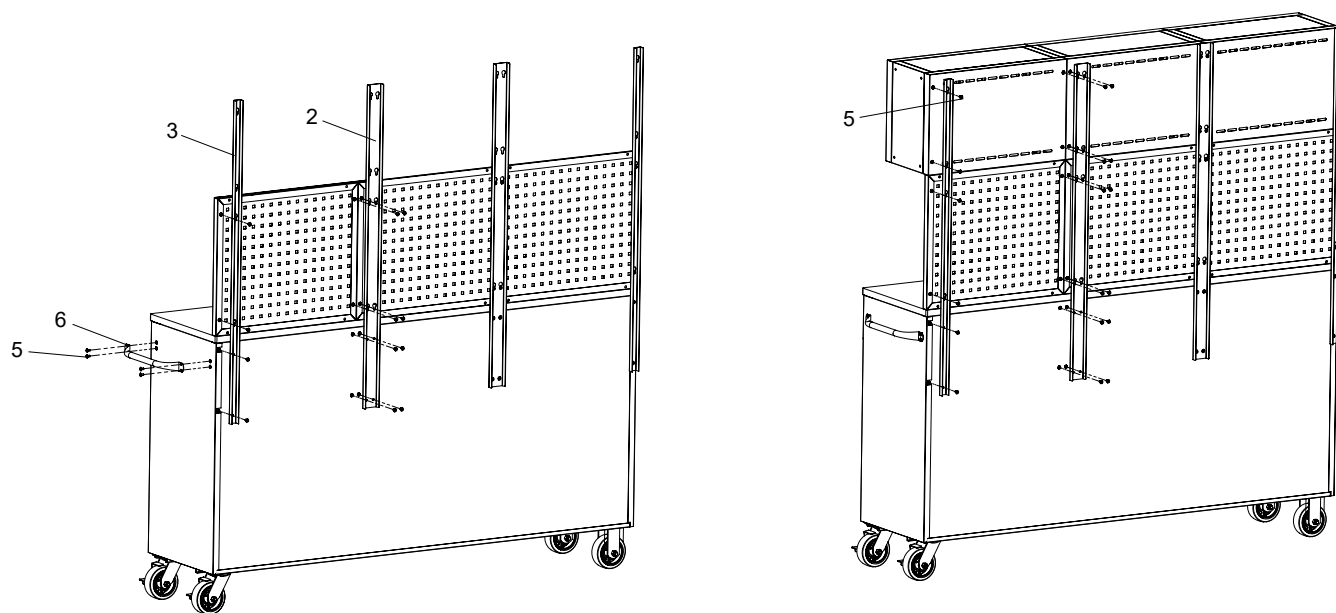

fig.3
5.3. Attach the handle (6) and posts (A, B) to the side of the cabinet using M6×12 bolts (5). Then attach the wall cabinets to the posts. Fig.3